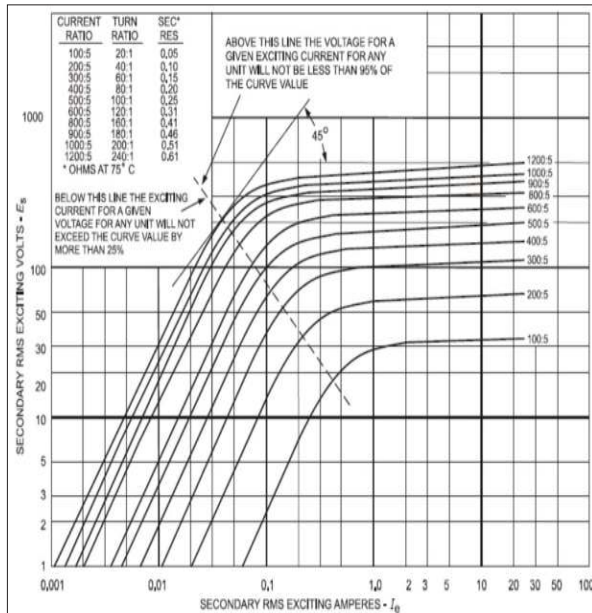

Fig 2. Relationship between  $V_s$  and  $I_e$  for CT [2]
- 5) The turns ratio is a determining factor in the reduction of secondary current when a known primary current is increased. It is remarkable that the CT will not saturate even if the fault current does not reach the upper limit of the primary current. Figure 2 indicates the Relationship between  $V_s$  and  $I_e$  for CT.